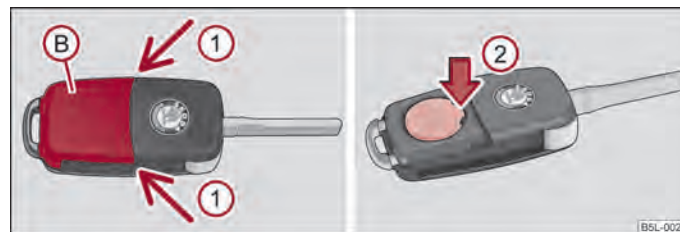

Fig. 10 Remote control key - remove cover/remove battery
Each remote control key contains a battery which is housed under the cover (B) → fig. 10. If the battery is discharged, the red warning light (A) does not flash after you press a button on the remote control key → fig. 9. We recommend that you have the batteries of the key replaced by an authorised ŠKODA Service Partner. You should, however, proceed as follows if you wish to replace the discharged battery yourself:
- Press off the battery cover with your thumb or using a flat screwdriver at the points of the arrows ① from → fig. 10.
- Remove the discharged battery from the key by pressing the battery downwards at the point of the arrow ② → fig. 10.